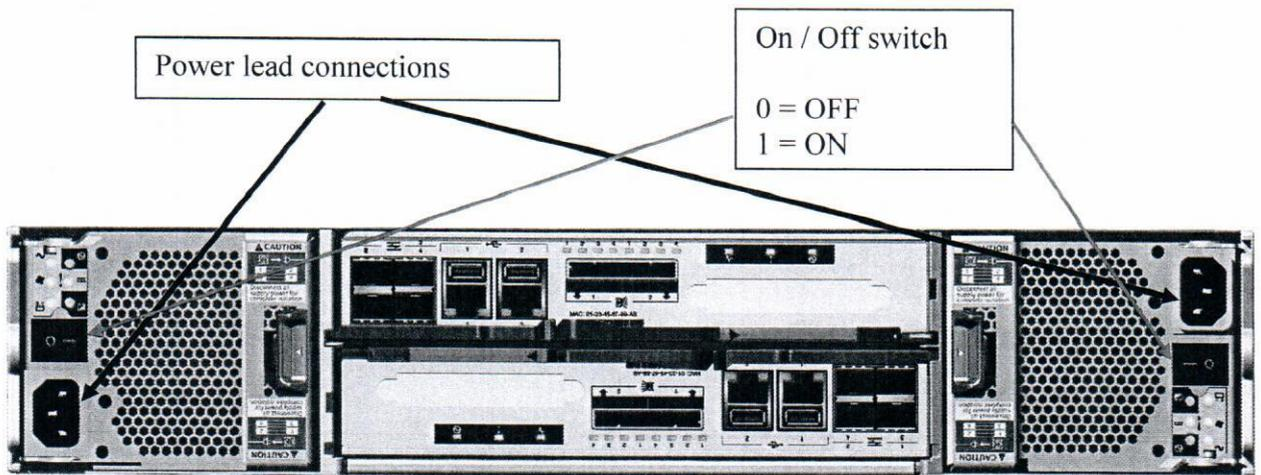

Figure 1 Power socket and on / off switch
- V7000 (two power leads) (Figure 1)